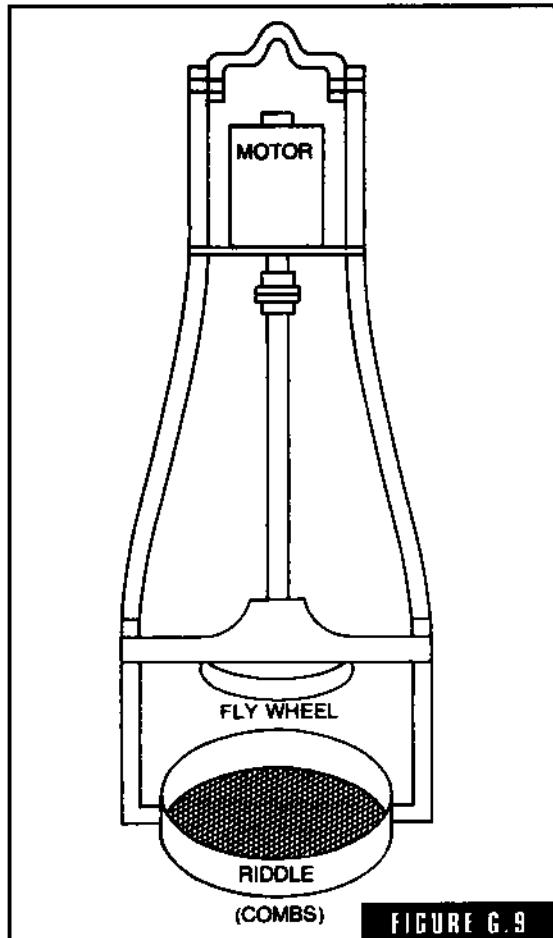

FIGURE G.9
**gyratory electric riddle** This piece of equipment is inexpensive by comparison to all other mechanical sand conditioners available (Fig. G-9). The comb electric riddles have been manufactured for many, many years. I have one that was built in 1925 and it is still going strong. That company is still in business and a new one can be bought today. The comb riddle is simply an electric riddle or sifter which, by its gyratory actions, tempers and aerates the sand in one operation. The term *riddle* means to sift through a screen.